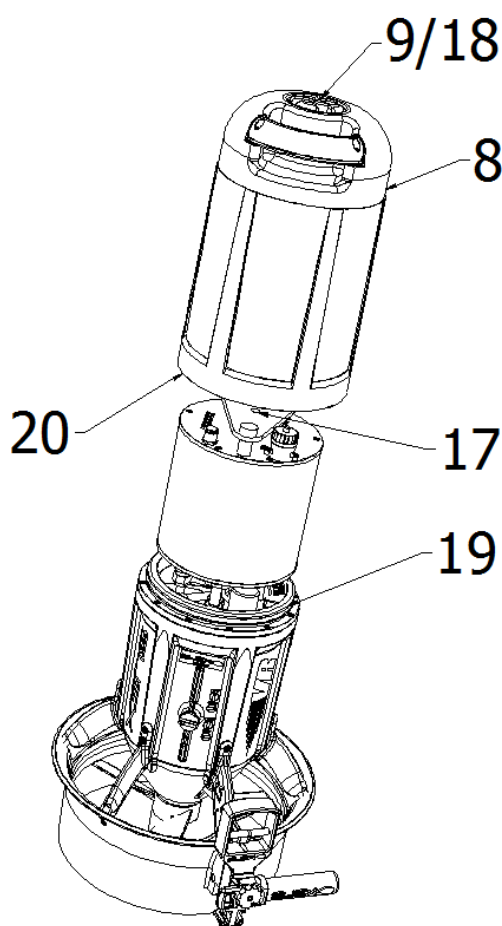

Figure 6
Put the propeller shroud on an flat, horizontal surface. Inspect carefully the OR gasket (19) (see fig.6) is properly inserted in its seat, it is clean and slightly lubricated with vaseline grease – DO NOT USE SILICON OIL !!!. Keep the body OR seat clean (20) from dust, sand using a clean cloth. Insert the body (8) aligning the screw (18) with the bolt (17). Turn and finger-tighten the locking wheel (9) clockwise until complete closing. Do not overtighten using tools (patented device).